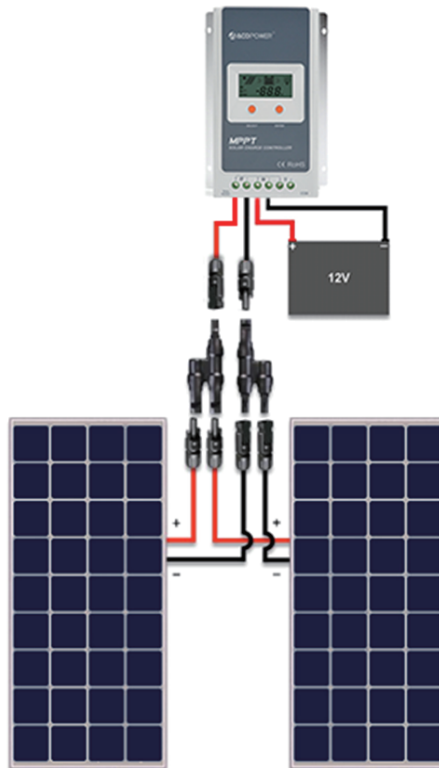

Figure 6 Two 100W Panels in parallel
One of the most basic solar configurations involves wiring two solar panels in parallel. This parallel configuration will increase the current output while the output voltage remains the same. Fig.6 above shows the arrangement for connecting two solar panels in parallel with one pair of MC4 Y-Branch Connectors. This arrangement is applicable if two solar panels will be mounted adjacent to one another. This connection requires one (1) pair of MC4 Branch Connectors. When the panels are mounted at different locations- that is, separated by a distance, the panels must be extended with MC4 Extension Cables (sold separately).